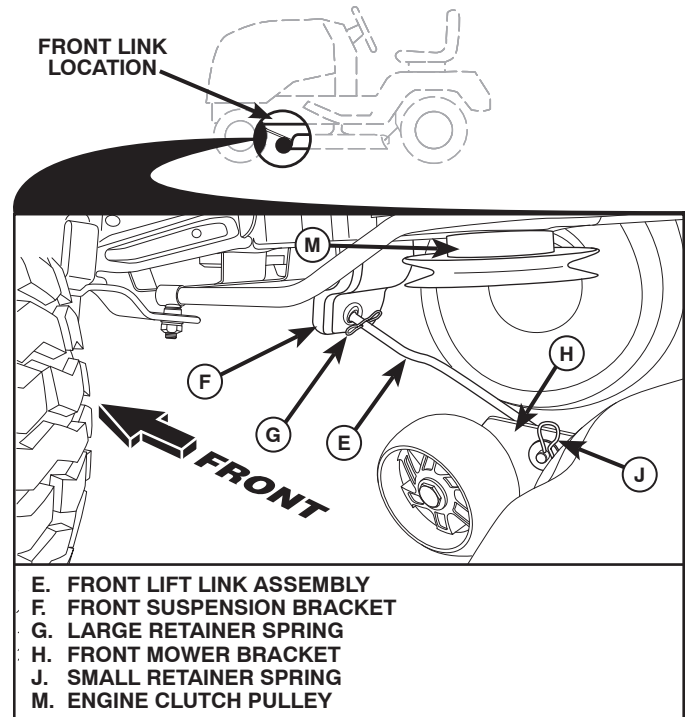

Fig. 35
8. ATTACH FRONT LINK (E) (See Fig. 35)
- From front of tractor, insert rod end of front link (E) through front hole in tractor front suspension bracket (F).
- Move to left side of mower and insert large retainer spring (G) through hole in front link (E) behind front suspension bracket (F).
- Insert other end of link (E) into hole in front mower bracket (H) and secure with washer and small retainer spring (J).